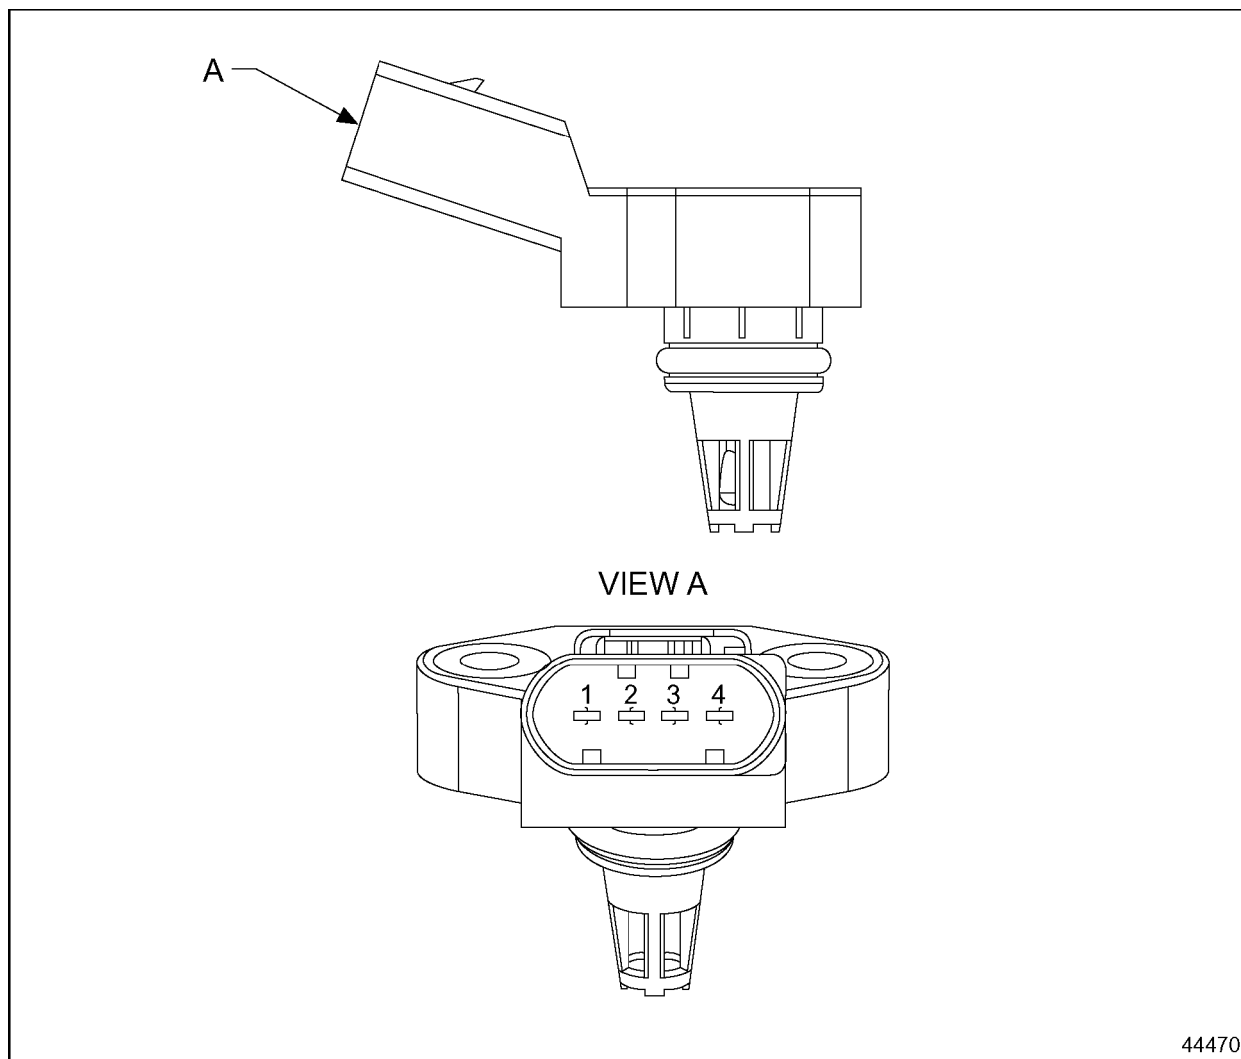
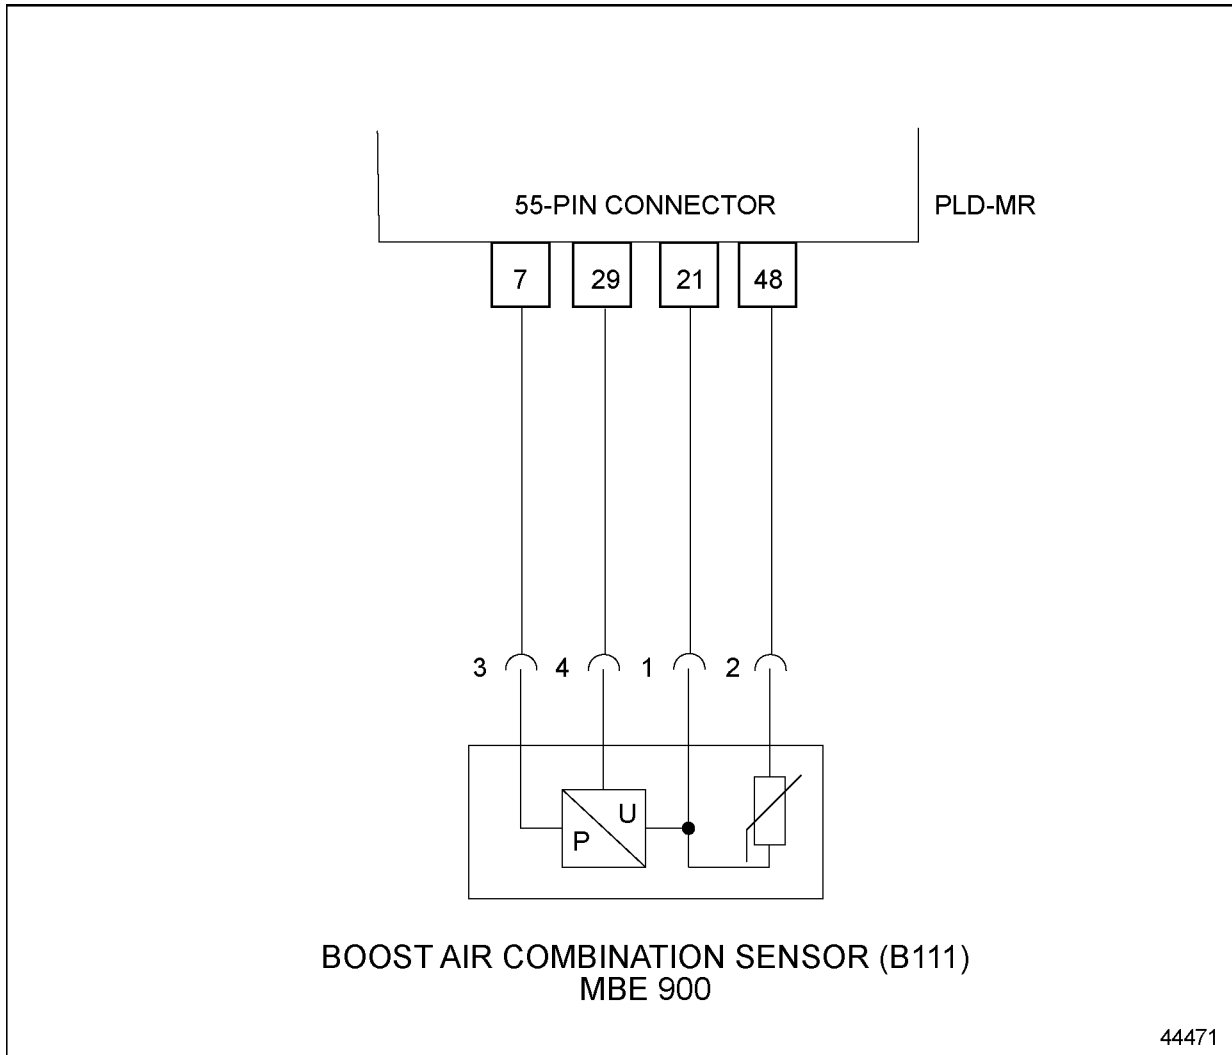

Figure 8-1 Turbo Boost Air Combination Sensor
Figure 8-2 Location of Boost Air Combination Sensor Harness Wires
Boost pressure is monitored by the turbo boost air combination sensor installed in the intake manifold. See Figure 8-1.
2. Check the condition of the boost air combination sensor (look for cracks, corrosion, missing or bent pins). See Figure 8-1.
- 2. Check the condition of the boost air combination sensor. See Figure 8-1.
3. Bridge pins 1 and 3 of the combination sensor. See Figure 8-1, and see Figure 8-2.
4. Measure the resistance between pin 3 of the combination sensor and wire 7 of the 55-pin connector harness. See Figure 8-1, and see Figure 8-2.
- [a] If fault code 105 03 is active in addition to fault code 102 03 with boost air combination sensor connected, repair open circuit in 55-pin connector wire 21 to pin 1 of the sensor. See Figure 8-2. Erase fault code memory.
- 2. Bridge pins 1 and 4 of the combination sensor. See Figure 8-1, and see Figure 8-2.
2. Measure the resistance between pins 1 and 3 on the combination sensor. See Figure 8-1, view “A” and see Figure 8-2.
3. Measure the resistance between pin 4 of the combination sensor and vehicle ground. See Figure 8-1, view “A” and see Figure 8-2.
4. Measure the resistance between pin 3 of the combination sensor and vehicle ground. See Figure 8-1, view “A” and see Figure 8-2.